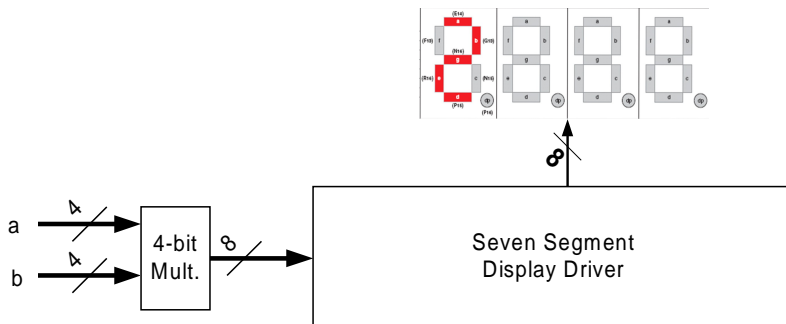

Figure 16
31. Design a circuit that multiplies two 4-bit unsigned numbers and displays the result as a hexadecimal number on the seven segment display. (Figure 16)